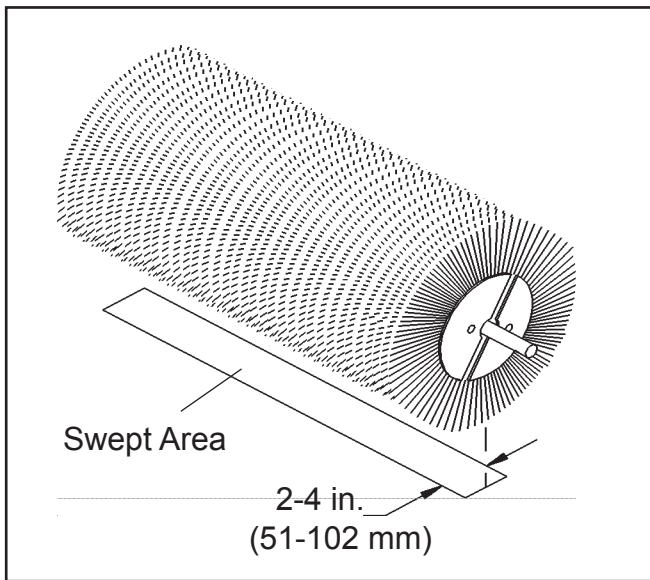

Figure 3
4. Raise the sweeper and back away; switch off the engine and remove the key. The brush pattern left in the dust should be 2-3 inches (51-76mm) wide, running the entire length of the brush. (compare the swept area with figure 3)